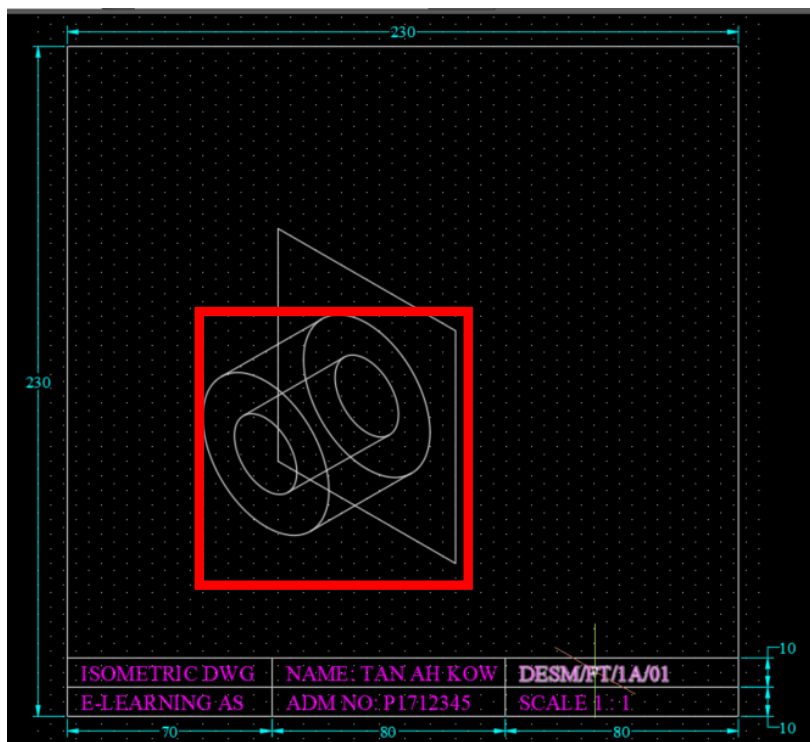

FIG 11
12. Redraw the 2 line that were trimmed off (Hint: use command line and extension) and the other half of isometric circle (Hint: use command mirror) as shown in FIG 11: